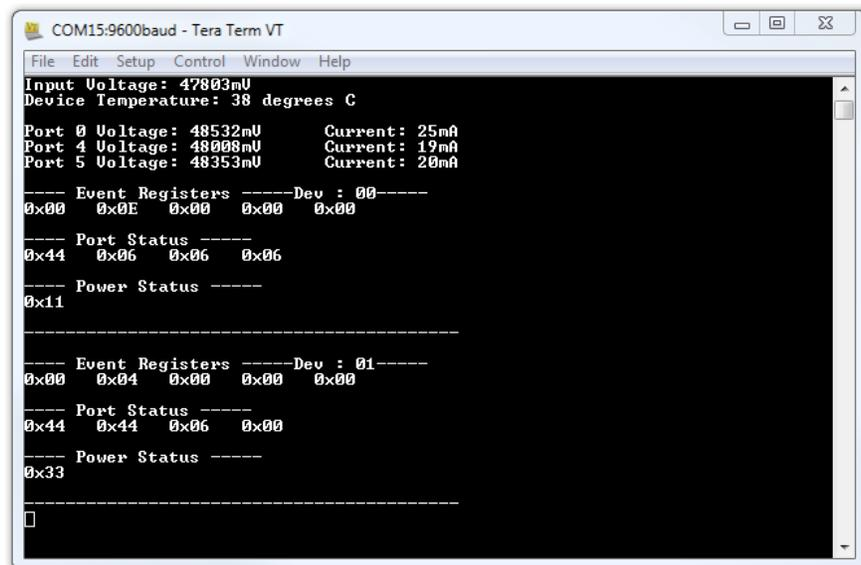

Figure 10. Terminal Response With Connected Ports
- The TPS2388EVM-612 is now waiting for a PD load to be installed. As ports are installed, the firmware automatically detects, classifies, and powers up the port as shown in Figure 10. Port status is updated on the screen approximately every 10 seconds.